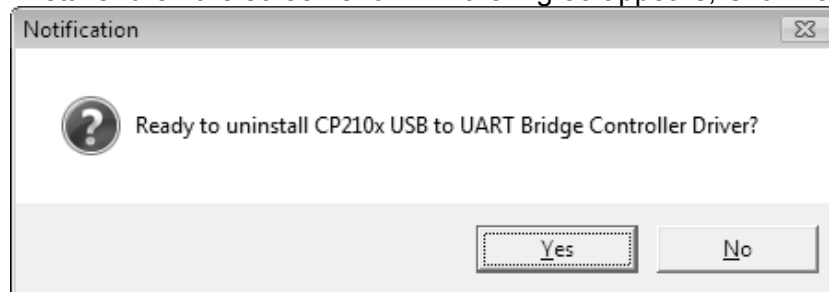

Fig. 83 Confirmation of uninstallation
- (3) Start up the uninstaller then the screen shown in the Fig.83 appears, Click **Yes**.